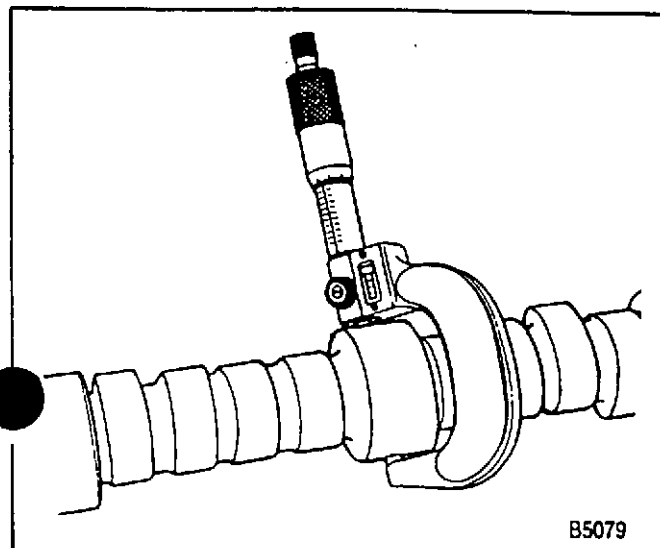

Figure 22—Checking the Camshaft Journals
- Camshaft journal diameters (figure 22). Refer to "Engine Specifications" in the back of this section for proper diameters.